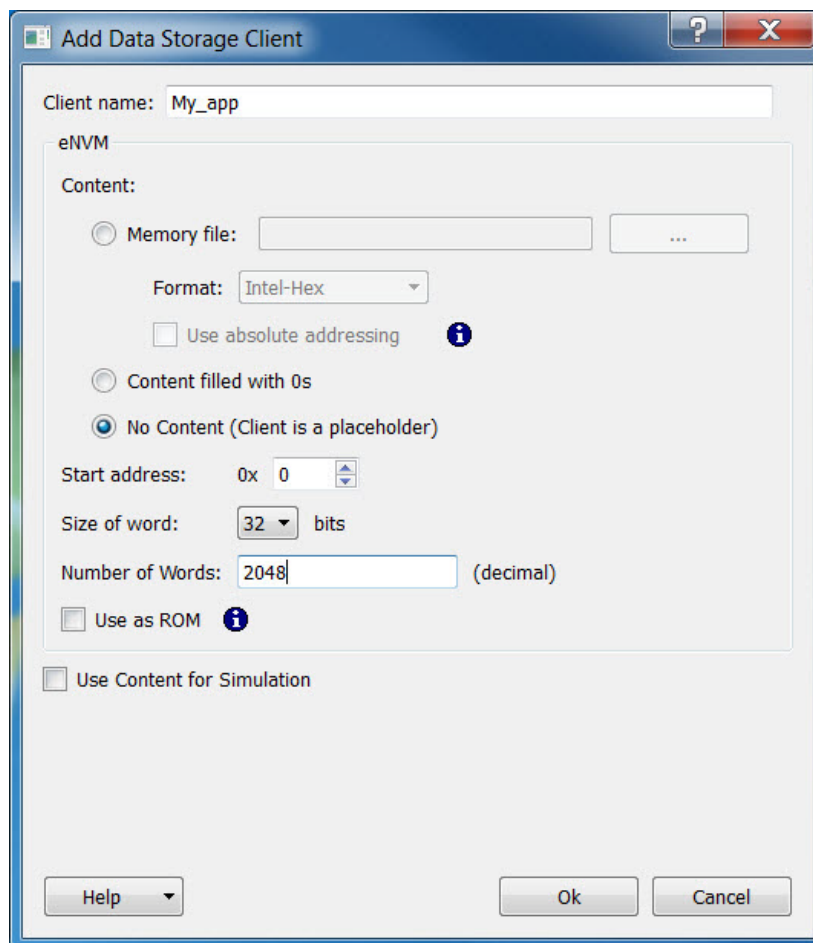

Figure 2-10 • Add Data Storage Client
12. Enter 32 for Size of word and 2048 for Number of Words. See Figure 2-10).